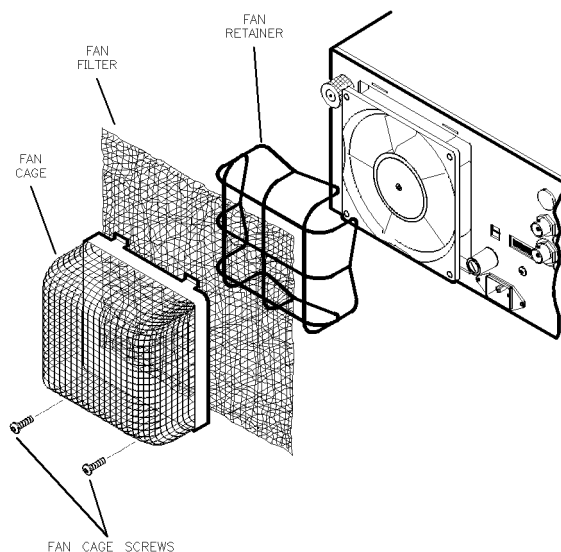

Figure 4-2. Removing the Fan Filter
3. Remove the screws holding the fan cage. See Figure 4-2.